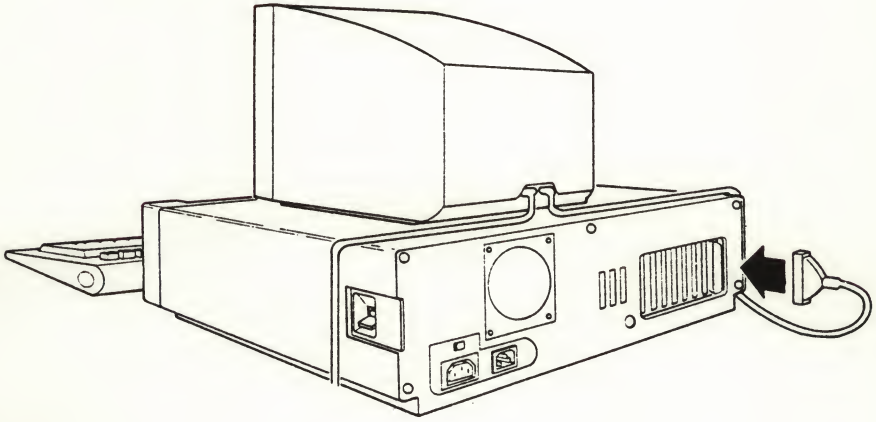

Figure 3-14 Connecting the Shielded Round Cable to the Tape Controller Card
6. Connect the tape drive's shielded round cable to the endplate of the controller card as shown in Figure 3-14.